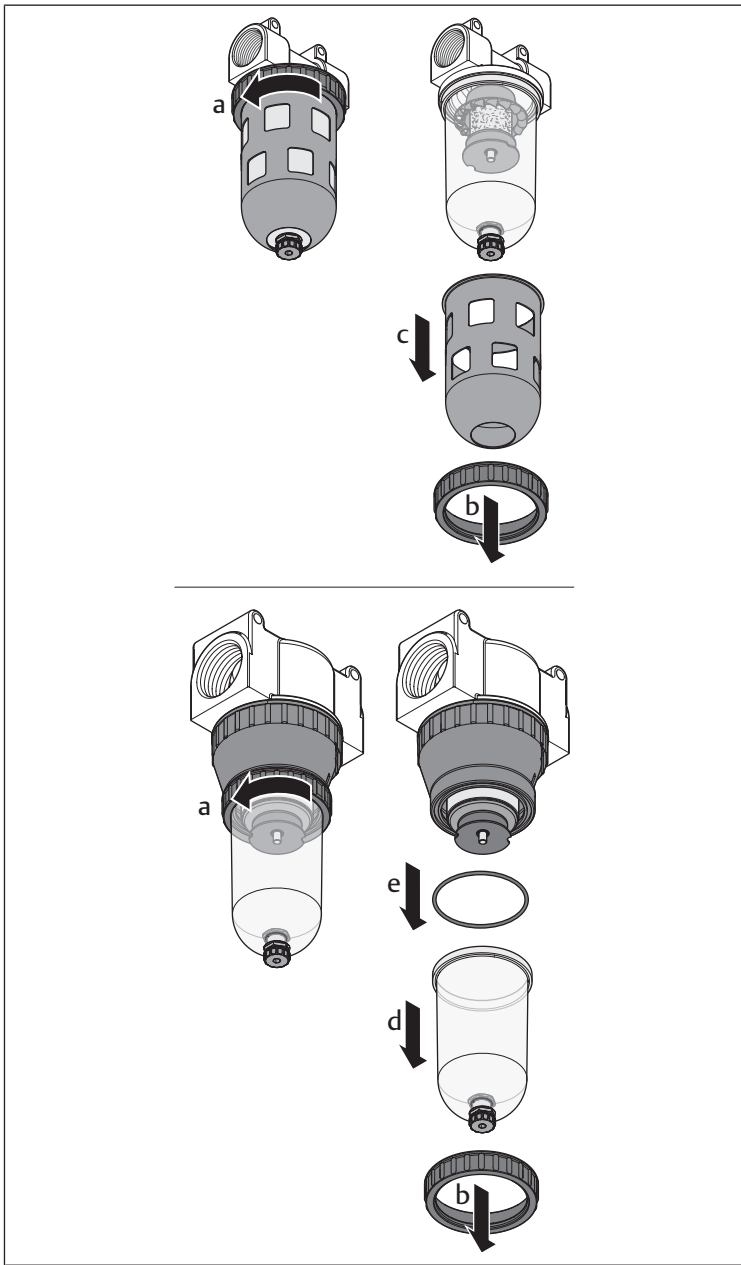
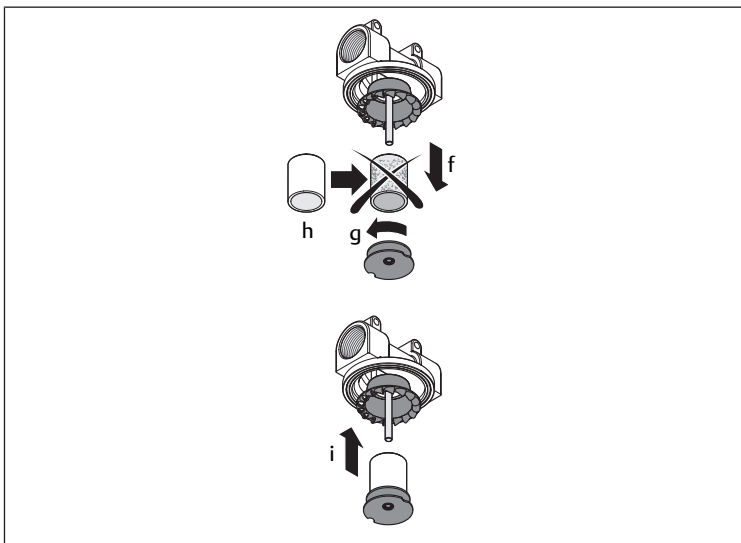

Fig. 4: Assembling/disassembling the reservoir and protective guard
Fig. 5: Replacing the filter
See → Fig. 4, → Fig. 5.
8. Remount the reservoir in the reverse order shown in → Fig. 4.